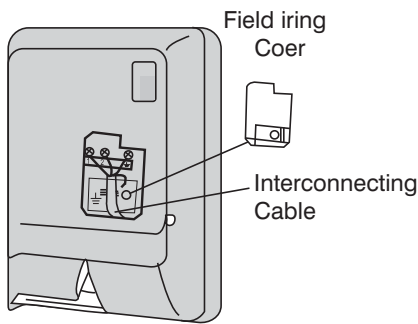

Fig. 13 – Field Wiring Cover
5. Open front cover of indoor unit and remove field wiring terminal block cover (see Fig. 13).